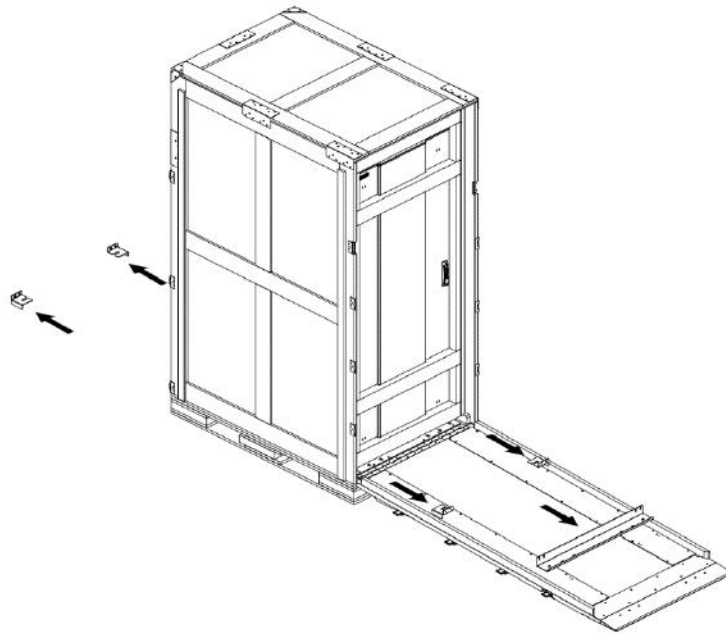

Figure 3-8 Remove the sheet metal
- c) Remove the sheet metal securing the cabinet as shown in Figure 3-8.